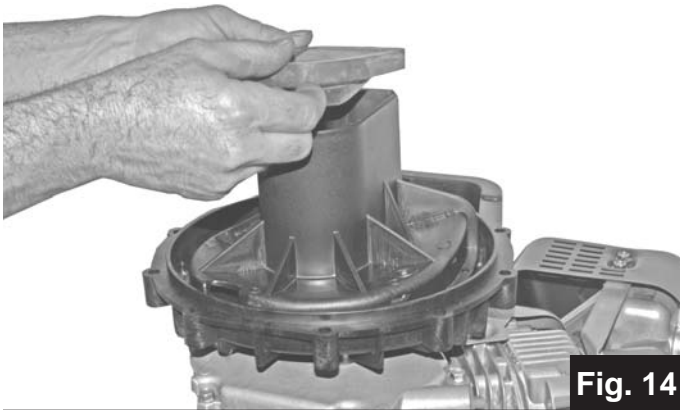

Fig. 14
10) Place the rubber *check valve* (Ref. #20) onto the volute (Fig. 14). Press firmly around the edges to make certain it is seated.